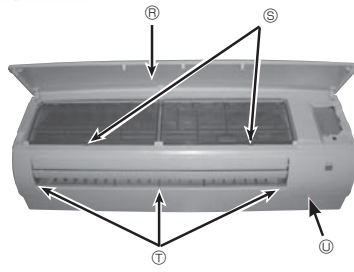

Fig. 6-2
- (Q) Radio frequency interface cord
- ① Press and unlock the knobs on both sides of the front grille and lift the front grille until it is level. Pull the hinges forward to remove the front grille. (Fig. 6-2)
- ② Remove 3 screw caps of the panel. Remove 5 screws. (Fig. 6-2)
- ⑦ Remove the screw of the corner box. (Fig. 6-2)